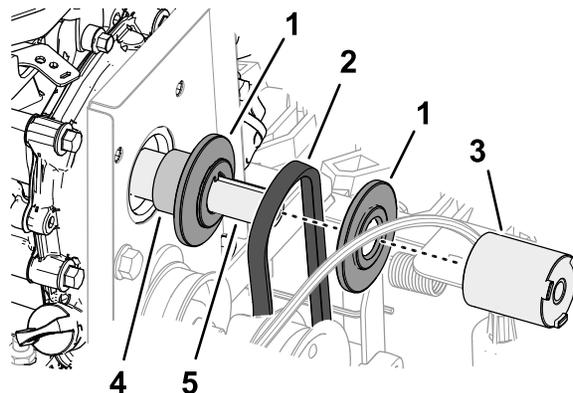

Figure 50
- At the top of the machine, align the traction belt into the groove of the traction pulley, and slip the traction belt over the crankshaft of the engine (Figure 50).